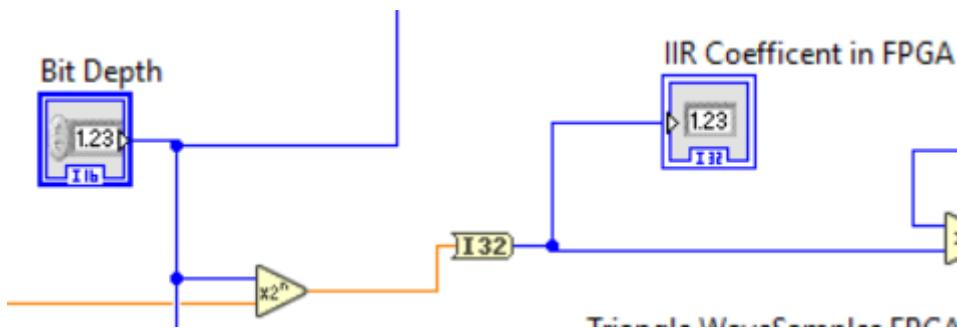

Fig.6. Conversion of the controls to integers
- FPGA uses fixed-point arithmetic. Therefore, we need to convert our data to integer format. For this purpose, we will multiply the controls to be used in the FPGA by **2^(Bit Depth)** and convert it to the **32-bit integer** as shown in Fig. 6. Here, we use **Scale By Power Of 2** and **To Long Integer** functions. Note that, Bit Depth determines the number of bits representing the numbers between -1 and 1 in integer format in the FPGA. (Note that if we were using myRIO FPGA, you would need to transfer the coefficients through the procedure called "**Front Panel Communications**.)